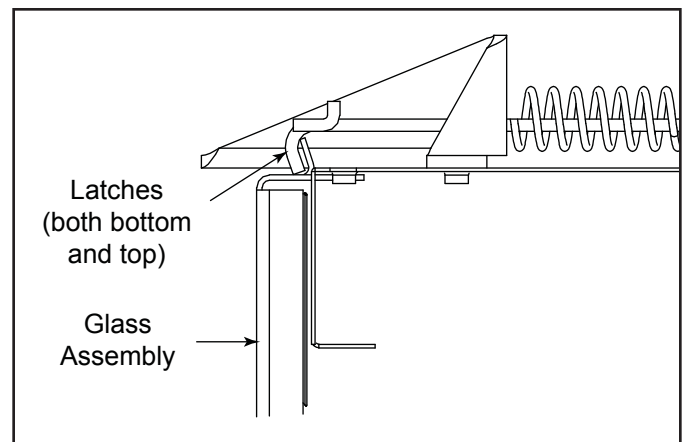

Figure 4.1 Glass Assembly
- Pull the glass latches out and remove the glass. See Figure 4.1.